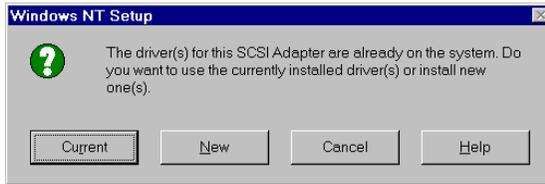

Figure 3-9. Install the New Driver from Diskette
11. If there is an existing Mylex driver in the system you will see the box shown below in Figure 3-9. Click New to install the new driver from the diskette.